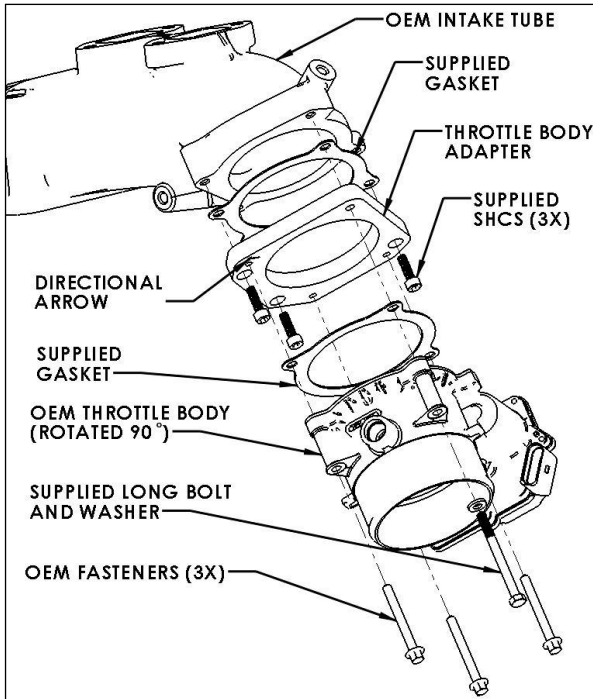

Figure 18 - Rotate throttle body
- Reinstall throttle body in 90° rotated position using throttle body adapter and supplied gaskets and hardware per Figure 18.